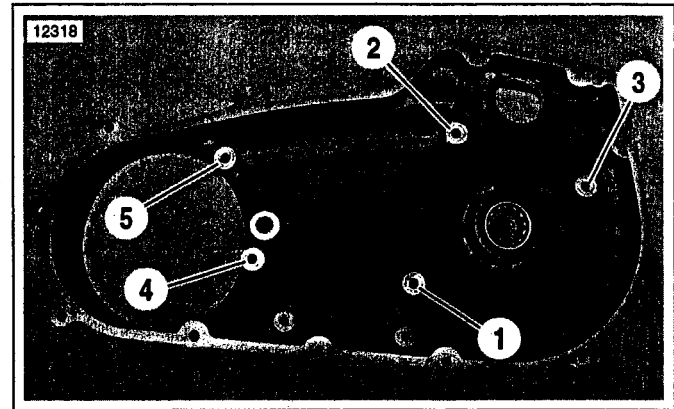

Figure 18. Sealing Fastener Tightening Sequence
32. See Figure 18. Clean the faces of the five mounting screw bosses in the inner primary housing with PJ1 or equivalent. The boss faces must be clean and dry, free of any oil or other contaminants.